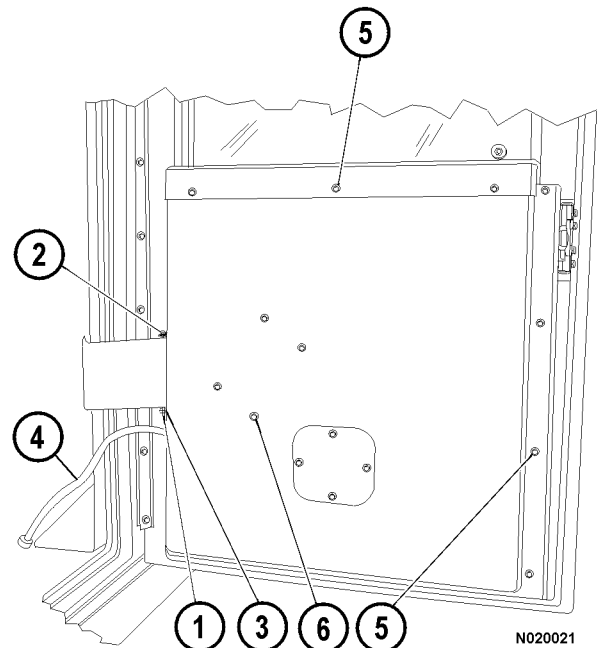
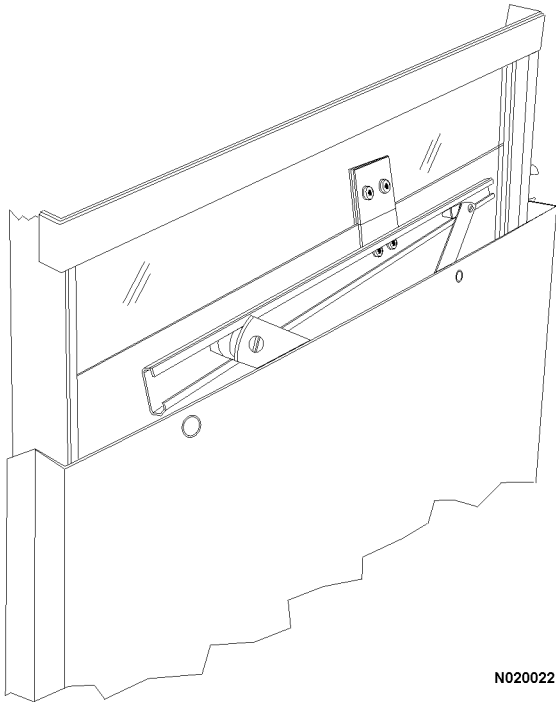

FIGURE 2-6.
FIGURE 2-7.
- a. Remove hair pin clip (1, Figure 2-6) and bolt (2) from the door check strap closest to the door.
- b. Remove two capscrews (3) which secure the door strap bracket to the door.
- c. Disconnect wiring harness (4) from the window regulator.
- e. Before removing all door panel mounting screws, support the panel to prevent the assembly from dropping. Remove 15 mounting screws (5).
- f. Carefully lower the door panel a few inches. Hold the glass at the top to prevent it from dropping. Slide the door panel toward the cab to disengage the window regulator roller (Figure 2-7) from the track on the bottom of the glass. Slide the panel away from the cab to disengage the other top roller and lower roller from its tracks. Place the panel out of the way after removal.
1. Remove hair pin clip (1, Figure 2-6) and strap pin (2) from door check strap (3).
2. Disconnect regulator harness (4) from the floor of the cab.
4. Before removing all of the door panel screws, support the panel to prevent the assembly from dropping. Remove 15 door panel screws (5).
5. Carefully lower the door panel a few inches. Secure the glass with duct tape at the top to prevent it from dropping. Slide the door panel toward the cab to disengage the window regulator roller (Figure 2-7) from the track on the bottom of the glass. Slide the panel away from the cab to disengage the other top roller and lower roller from its tracks.
19. Install the window regulator track bracket as shown in Figure 2-7. Ensure that the nylon bushings and gaskets are installed properly to prevent damage to the glass.
22. Lift up the inner door panel, window regulator and glass to align the screw holes in the panel with the holes in the door frame. Install door panel screws (5, Figure 2-6) that secure the panel to the door frame.
23. Connect regulator harness (4) to the floor of the cab.
24. Align the opening of door check strap (3) with the holes in the bracket and install strap pin (2). Install hair pin clip (1).
4. Remove four window regulator mounting screws (6, Figure 2-6).